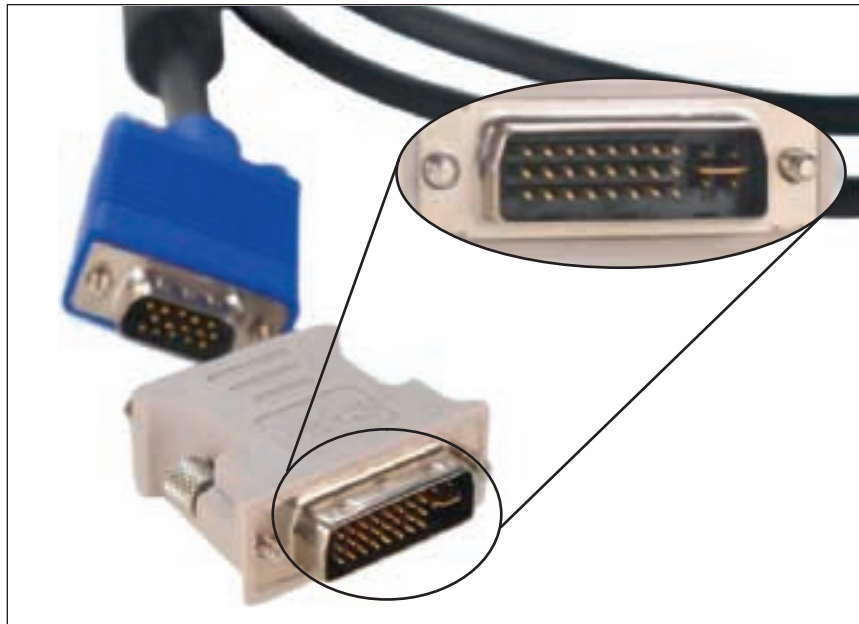
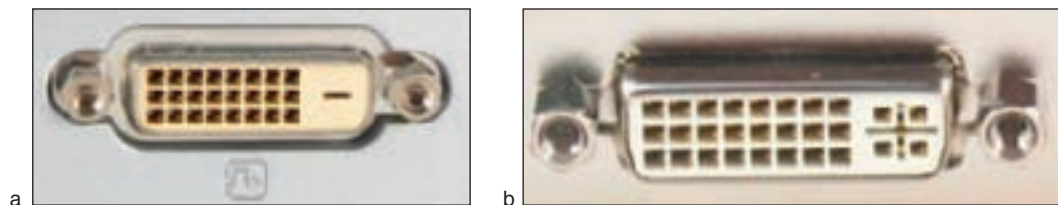

Figure 9-30 Digital to analog video port converter using DVD-I connector with extra four pins
Figure 9-31 Two types of DVI ports: (a) DVI-D, (b) DVI-I
- DVI (Digital Visual Interface).** This method is the digital interface standard used by digital monitors such as a digital LCD monitor and digital TVs (HDTV). For a video card that only has a DVI port, you can purchase a VGA converter so you can connect a standard VGA video cable to use a regular analog monitor (see Figure 9-30). There are two types of DVI ports, which are shown in Figure 9-31. The **DVI-I** port supports both analog and digital signals and the **DVI-D** port works only with digital monitors. If a video card has a DVI port, most likely it will be the DVI-I port (the one with the four extra holes) so that you can use an adapter to convert the port to a VGA port.